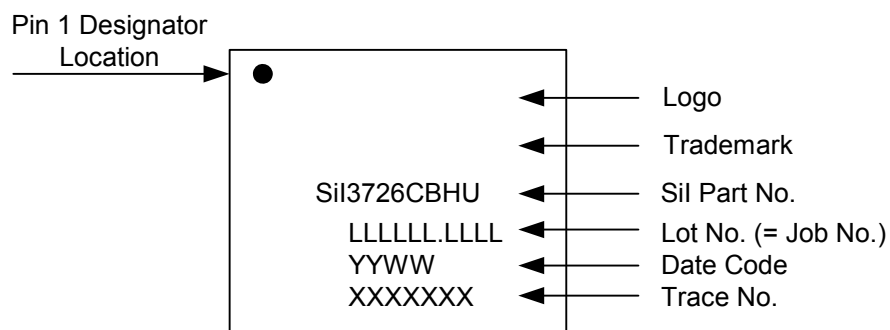

Figure 11: Marking Specification - Sil3726CBHU
- Sil3726CBHU (364-pin BGA, green package) shown in Figure 11.